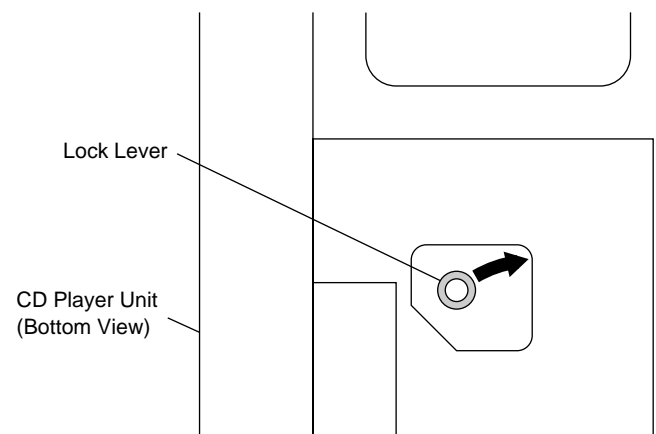

Figure 8-3
**Note 1:** How to open the changer manually. (Fig. 8-3)